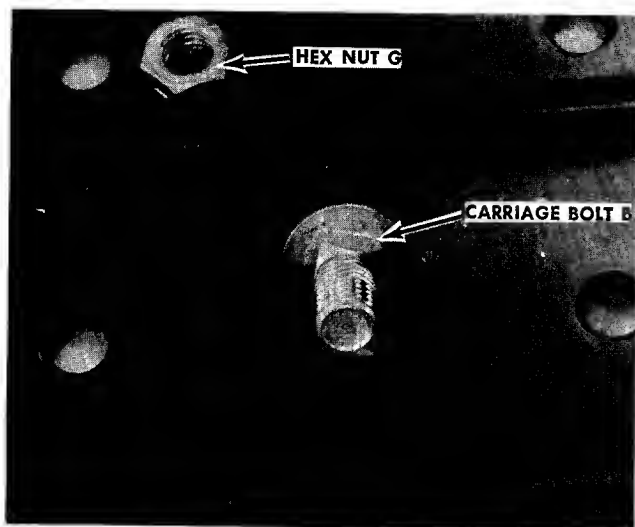

FIGURE 3. ATTACHING SEAT BOLT
- Step 5. Hook the large carriage bolt B into the bottom of the seat as shown in figure 3.